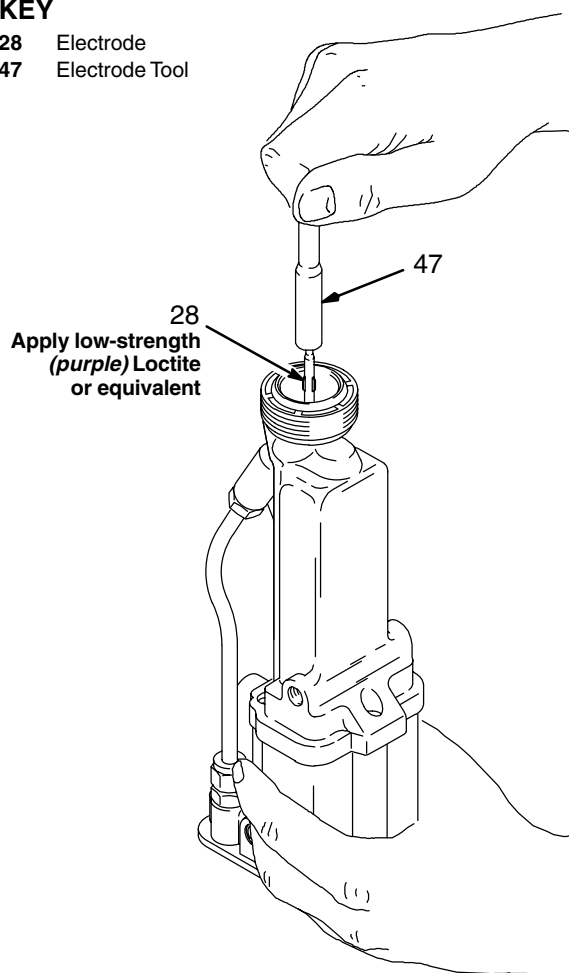

Fig 17
3. Lightly lubricate the o-ring (31) with petroleum jelly and install it on the resistor stud (2).
4. Using an 8 mm hex key (A), install the resistor stud (2) in the fluid nozzle (14). Tighten to 10 in-lb (1.12 N•m).
Make sure the electrode (28) is tightened properly, as shown in Fig 17 , page 20.
5. Install the fluid nozzle (14) and resistor stud (2) assembly with the nozzle wrench (48). Tighten until the fluid nozzle seats in the gun barrel (1/8 to 1/4 turn past hand-tight).
6. Install the air cap assembly (6, 16, 43), o-ring (12), and retaining ring (9). Test gun resistance as instructed on page 16.
2. Unscrew and remove the fluid needle/electrode (28) with the electrode tool (47) provided. Be careful not to damage the contact wire. See Fig 17 .